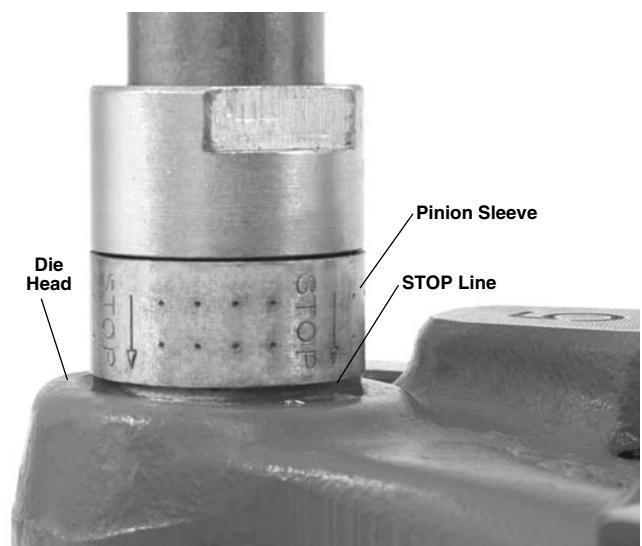

Figure 8 – Thread Complete – Top of Die Head Flush With STOP Line
- Continue ratcheting until the top edge of the die head is flush with the red stop line on the pinion sleeve (*see Figure 8*).
12. Continue threading until the edge of the die head is flush with the red stop line on the pinion sleeve (*Figure 8*). Release foot switch. If threading is continued past the red stop line, the pinion shaft will disengage to prevent jamming. Do not continue to operate with the pinion shaft disengaged – over time this can cause tool damage.